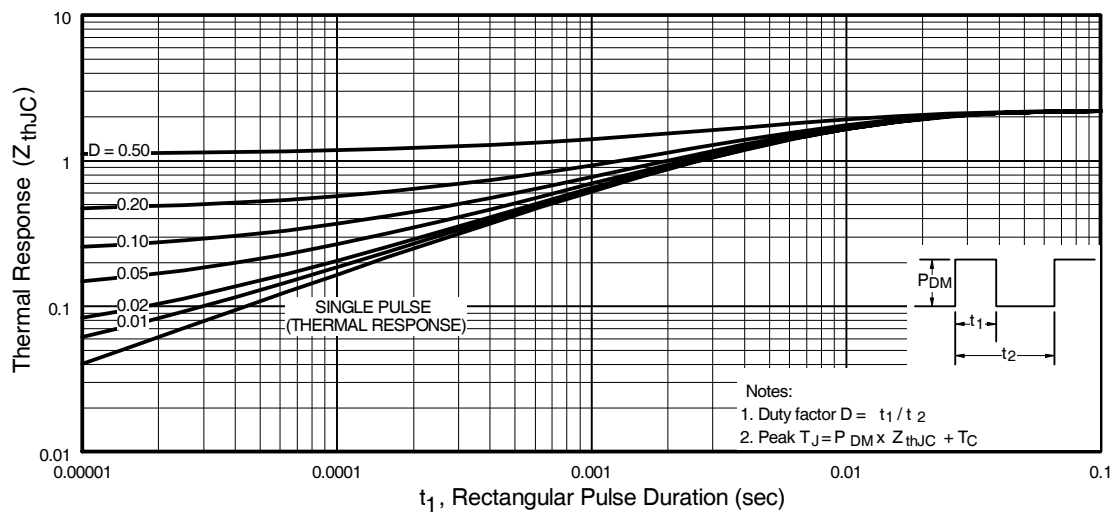

Fig 11. Maximum Effective Transient Thermal Impedance, Junction-to-Case
① Repetitive rating; pulse width limited by max. junction temperature. (See fig. 11)
③ $I_{SD} \leq 16A, di/dt \leq 420A/\mu s, V_{DD} \leq V_{(BR)DSS}, T_J \leq 175^\circ\text{C}$
② $V_{DD} = 25V$, starting $T_J = 25^\circ\text{C}$, $L = 410\mu H$